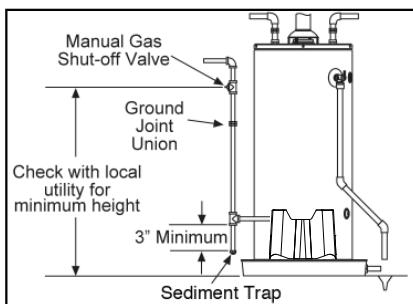

Figure 10 - Gas Piping
- Install a Sediment Trap as shown in Figure 10. The Sediment Trap must be no less than three inches long for the accumulation of dirt, foreign material, and water droplets.